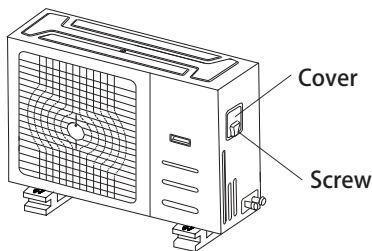

Fig. 8.1
- Remove the electric cover of the outdoor unit. If there is no cover on the outdoor unit, disassemble the bolts from the maintenance board and remove the protection board. (See Fig. 8.1, 8.2)